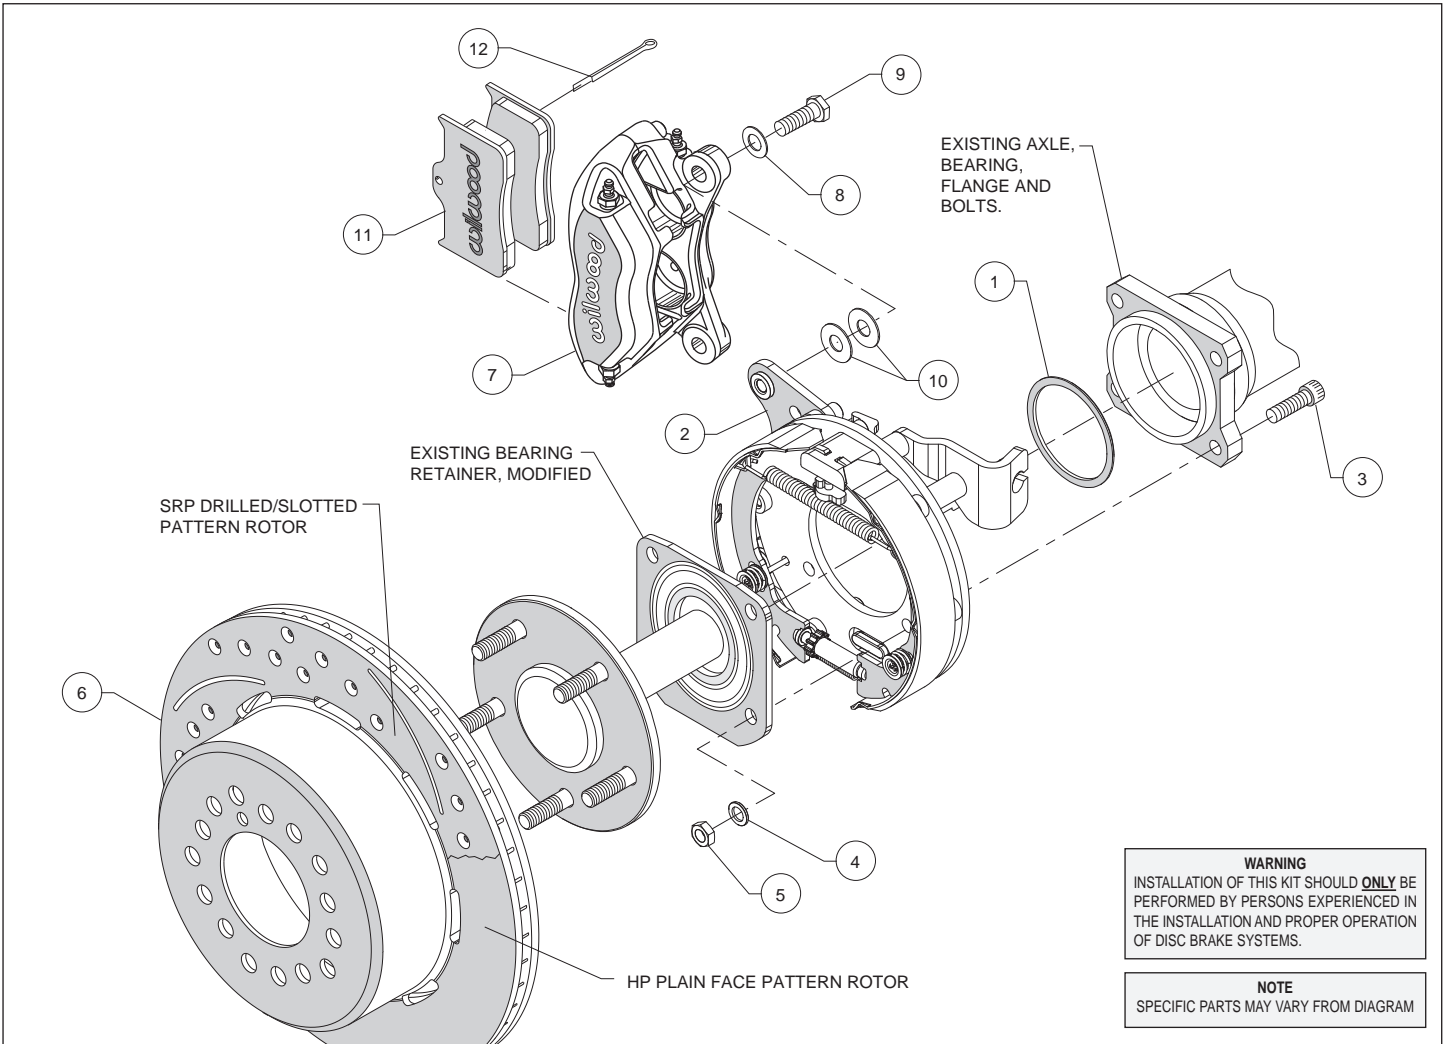
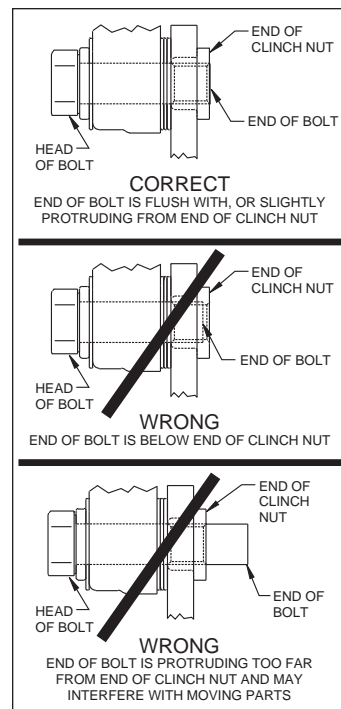

Figure 1. Typical Installation Configuration
Figure 5. Clinch Nut Engagement Diagram
Assembly Instructions (numbers in parenthesis refer to the parts list, and Figure 1 on the preceding pages): **CAUTION:** All mounting bolts must fully engage clinch nuts. Be sure to check that all bolts are either flush or protruding through flanged side of clinch nut after shimming, Figure 5.
- With the bearing retainer in place, slide the caliper mounting bracket assembly (2) onto the axle as shown in Figure 1 and Photo 1. Install axle shim (1) over axle shaft with bearing chamfer facing toward the axle housing, as shown in Photo 2.
- Slide the axle and parking brake assembly into the axle housing ensuring that the backing plate is flush with the axle housing flange and the bearing retainer is flush with the backing plate. Secure OEM bearing retainer using bolts (3), washers (4) and lock nuts (5), as shown in Figure 1. Hex nuts (5) and washers (4) that retain the caliper mounting bracket assembly (2) should be on the wheel side of the bracket, Figure 1. Torque nuts to 40 ft-lbs.
- Align the correct hole pattern in the rotor/hat (6) with the stud pattern on the axle flange and slide into place, Figure 1 and Photo 3. **NOTE:** The rotor/hat must fit flush against the axle flange or excessive rotor run out may result. Install three lug nuts (finger tight) to keep the rotor/hat assembly in place while continuing with the installation. **NOTE:** Some OEM and after market axles come with stud sizes larger than 0.50" diameter. Verify stud size and have a qualified machine shop drill the bolt circle of the hat/rotor to the correct stud size, if necessary.
- NOTE:** Please reference the caution statement at the beginning of the assembly instructions. Mount the caliper (7) onto the caliper mounting bracket (2) using bolts (9) and washers (8), as shown in Figure 1. Initially place two .035" thick shims (10) on each bolt between the caliper and the bracket, Photo 4. Temporarily tighten the mounting bolts and view the rotor (6) through the top opening of the caliper. The rotor should be centered in the caliper, Photo 5. If not, adjust by adding or subtracting shims between the bracket and the caliper. Always use the same amount of shims on each of the two mounting bolts. **NOTE:** The end of each bolt must be flush with or slightly protruding from the head of the clinch nut, as shown in Figure 5. If necessary place spare shims between washer (8) and caliper mounting ear to achieve the proper clinch nut engagement. Once the caliper alignment and clinch nut engagement are correct, remove the bolts one at a time, apply red *Loctite*® 271 to bolt threads, and torque to 40 ft-lb.